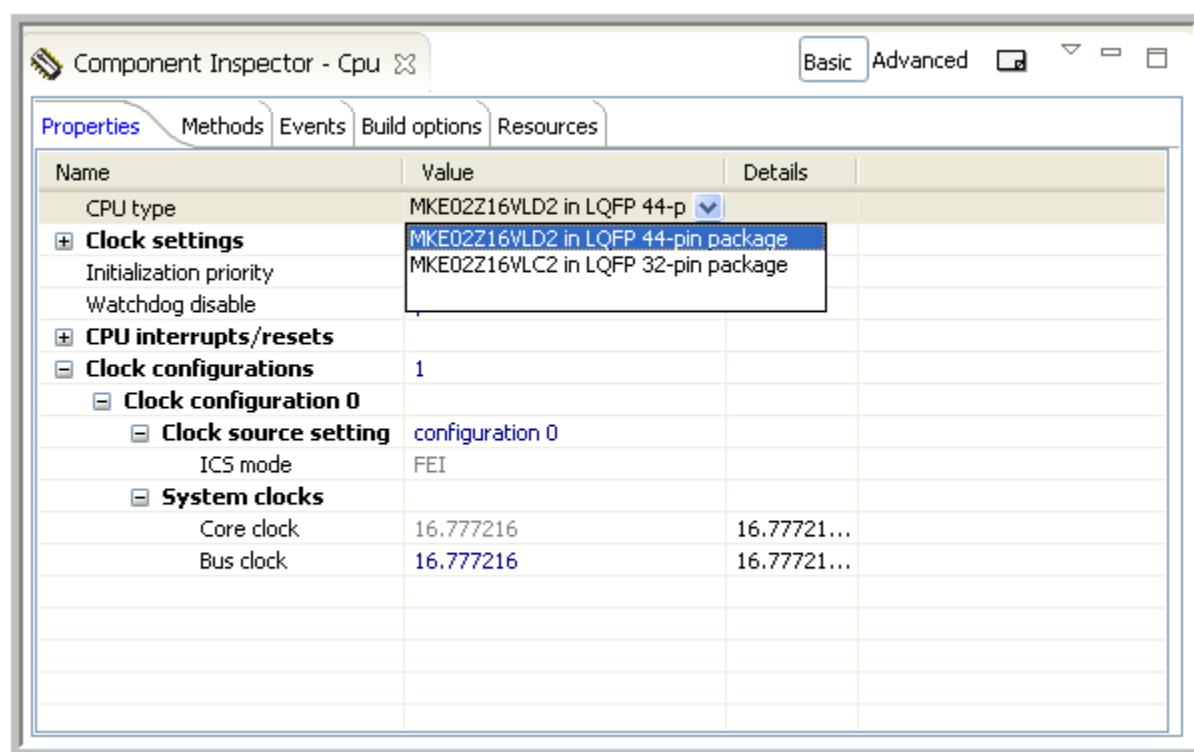

Figure 2-8. Displaying pin variant and package
- **Classic** - this is the default tree-based view as shown in figure Figure 2-8. In default view, built-in tabs are displayed in the sequence "Properties, methods, events," and the tabs that are specific to custom view are added at the end. In case, **Classic** view option is selected, the sequence of tabs for component XYZ will be: **Properties|Methods|Events|Device Settings**.